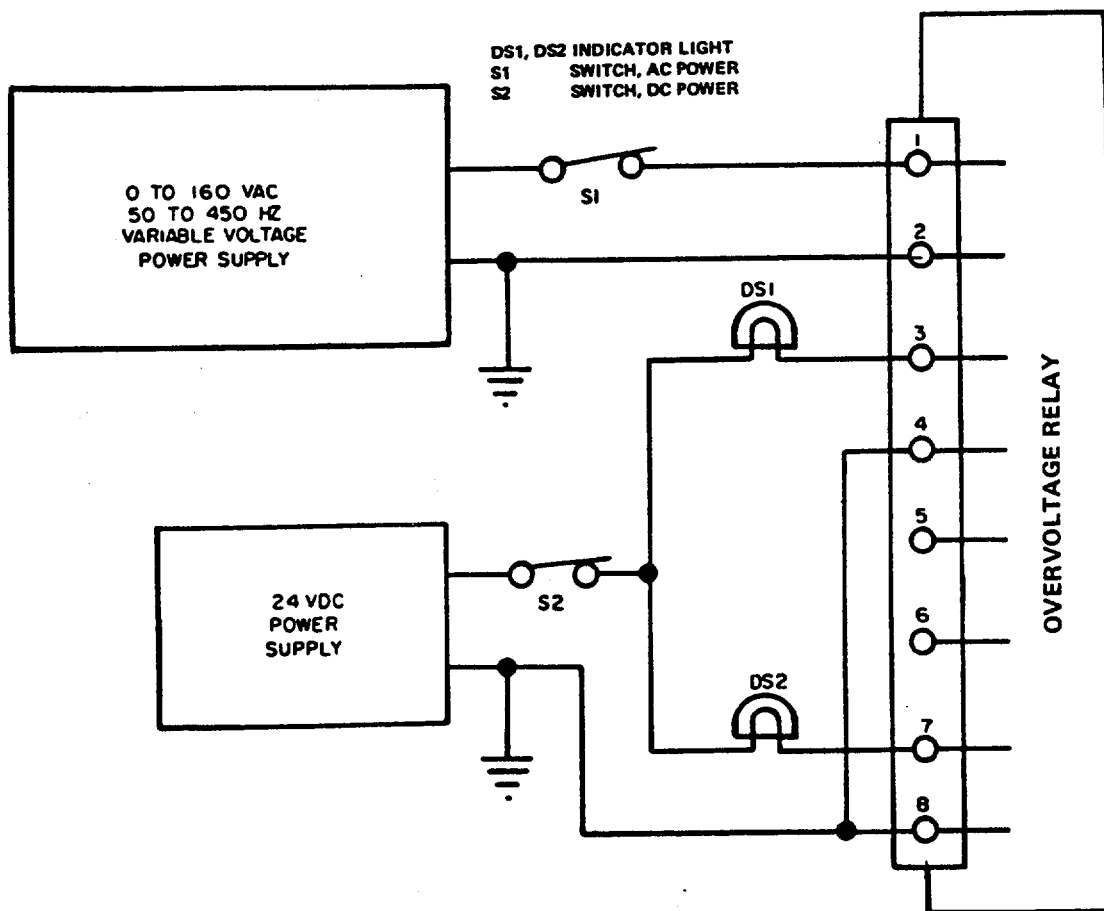

Figure 15-5. Underfrequency Relay K116, Test Setup
- (a) Connect relay to test setup as shown in figure 15-5.